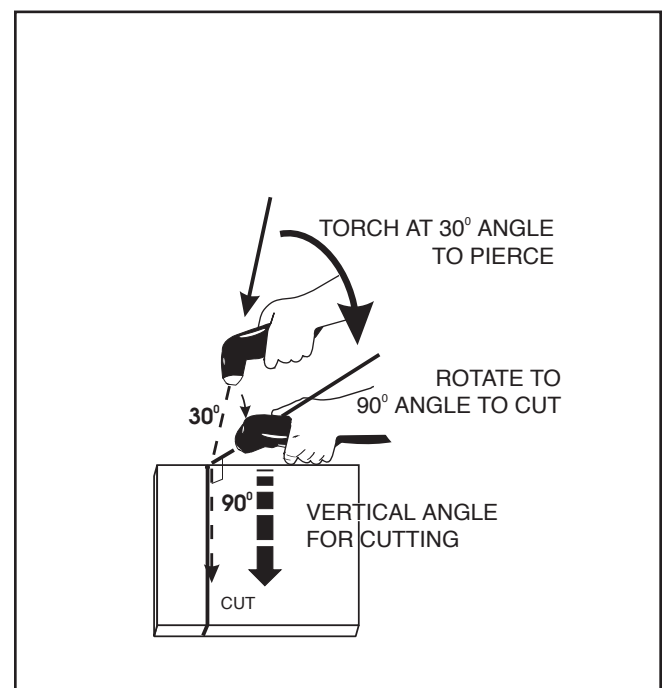

FIGURE B.2 -- Cutting Thick Piece of Metal.
3. Start the cut from the edge of the work piece when possible. Pierce the work piece by slowly lowering the torch onto the metal at a 30° angle. This will blow the dross away from the torch tip. Slowly rotate the torch to vertical position as the arc becomes deeper. See Figure B. 2.